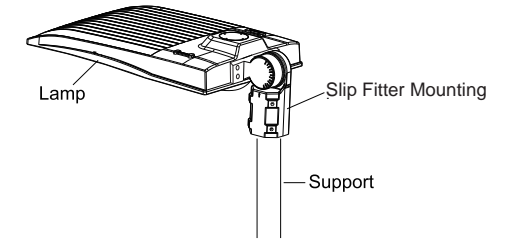

Figure 10
Step 2: Place the mounting into the pole and lock the four bolts. (Figure 10)